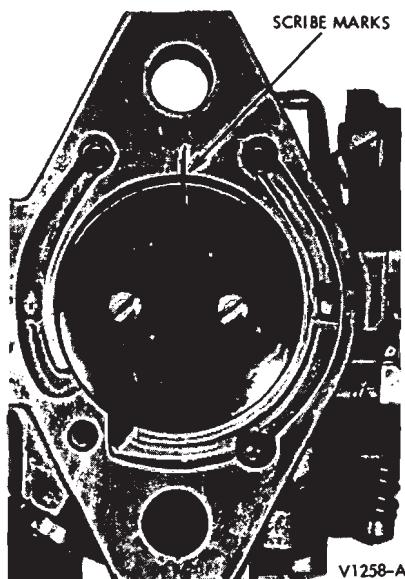

FIG. 13—Throttle Plate Scribe Marks
12. If it is necessary to remove the throttle plate or shaft and lever assembly, lightly scribe the throttle plate and the bottom of the mounting flange to facilitate installation (Fig. 13). Remove the throttle plate screws. If the tips of the screws are flared excessively, file the flared portion to avoid damage to the threads in the throttle shaft. Avoid damage to the throttle shaft or bore while filing the screws.